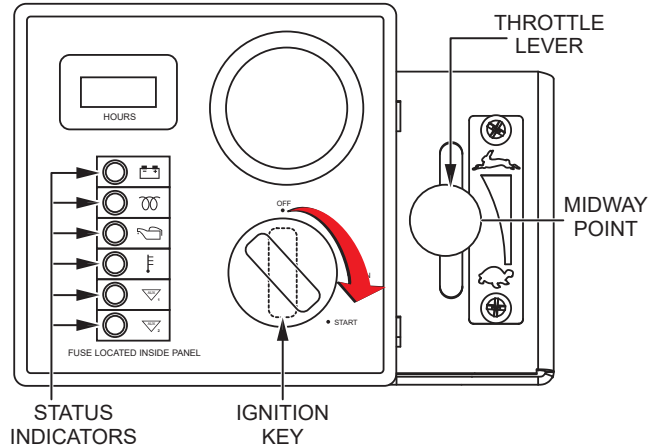

Figure 12. Starting the Engine
1. Move the engine throttle lever to the midway point between the **FULL SPEED** (rabbit) and **IDLE** (turtle) positions. See Figure 12.
2. Insert the ignition key into the ignition switch and turn it **clockwise** to the **START** position (Figure 12). Once the engine has started, release the ignition key. The key will automatically return to the **RUN** position.
3. Make sure the status indicator LEDs on the control panel are **OFF** (Figure 12). If the charge indicator LED remains lit after the engine has started, increase engine speed until the LED turns **OFF**.